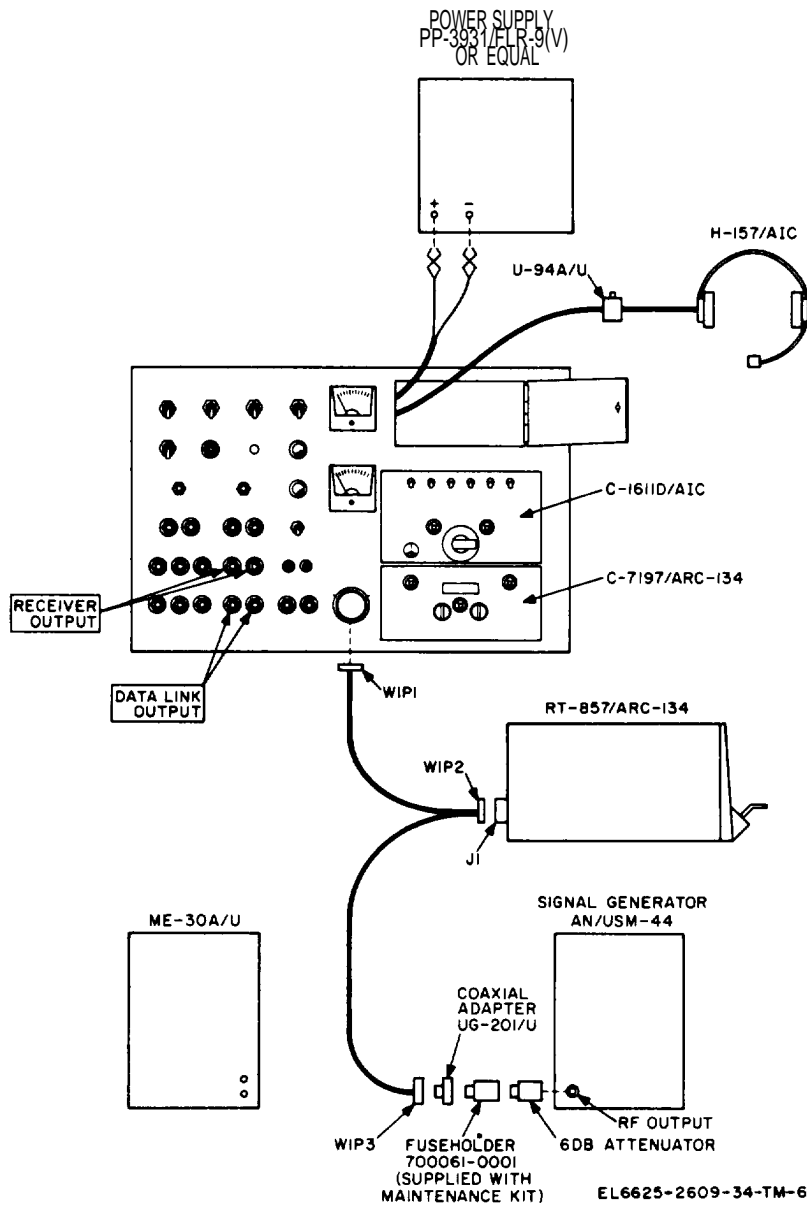

Figure 3-5. Receiver circuit, test setup.
- (1) Radio Set AN/ARC-134.
- (2) Generator, Signal AN/USM-44.
- (3) Power supply.
- (4) Headset-Microphone H-157/AIC.
- (5) Voltmeter, Electronic ME-30A/U.
- (6) Adapter.
- (7) Fuseholder 11509A (part of MK-1004A/ARC).
(8) 1/16-amp, 250-volt fuse F01A250V1-16A (part of MK-1004A/ARC).
b. Test Connections and Conditions. Connect the equipment as shown in figure 3-5. Connect the ME-30A/U to the RECEIVER OUTPUT jacks on the test panel. Place the C-1611D/AIC transmit-interphone selector switch in position 3, the RECEIVERS 3 switch ON, all other RECEIVERS switches to off, and position the VOL control as required. These settings must be maintained during the test.
b. *Test Connection and Conditions.* Connect the equipment as shown in figure 3-5. Connect the ME-30A/U to the DATA LINK OUTPUT jacks